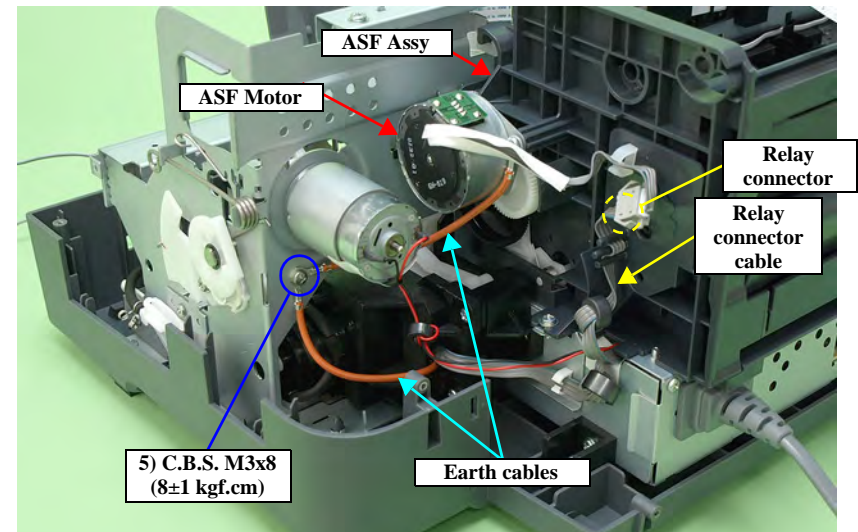

Figure 4-82. Releasing the Cables (1)
- Referring to Figure 4-82, correctly route the Relay connector cable.